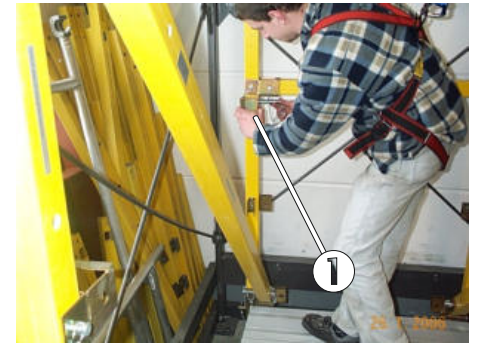

Fig. 62: Mounting the cross supports for handrails
The second rail cross support is attached and secured to the rear vertical rail stanchion beneath the rear handrail that has already been mounted using a short locking pin (fig. 62/pos. 1).